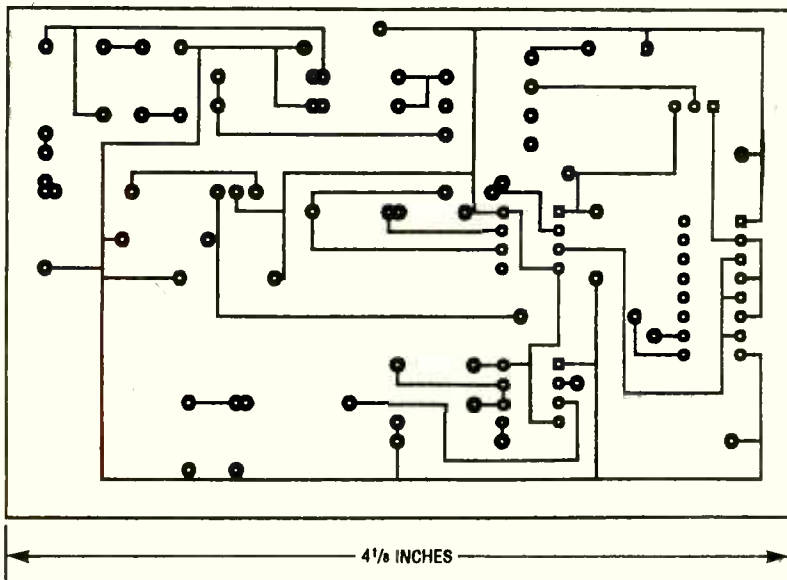

Fig. 3. The author's prototype was assembled on a printed-circuit board. A full-size template of the foil pattern is shown here.
**Construction.** There is nothing critical about the circuit. In fact, if you are more comfortable with point-to-point wiring, there is no compelling argument against you going that route. The author's prototype of the Geiger Counter, however, was assembled on a printed-circuit board. A full-size template of the foil pattern is shown clearly in Fig. 3.